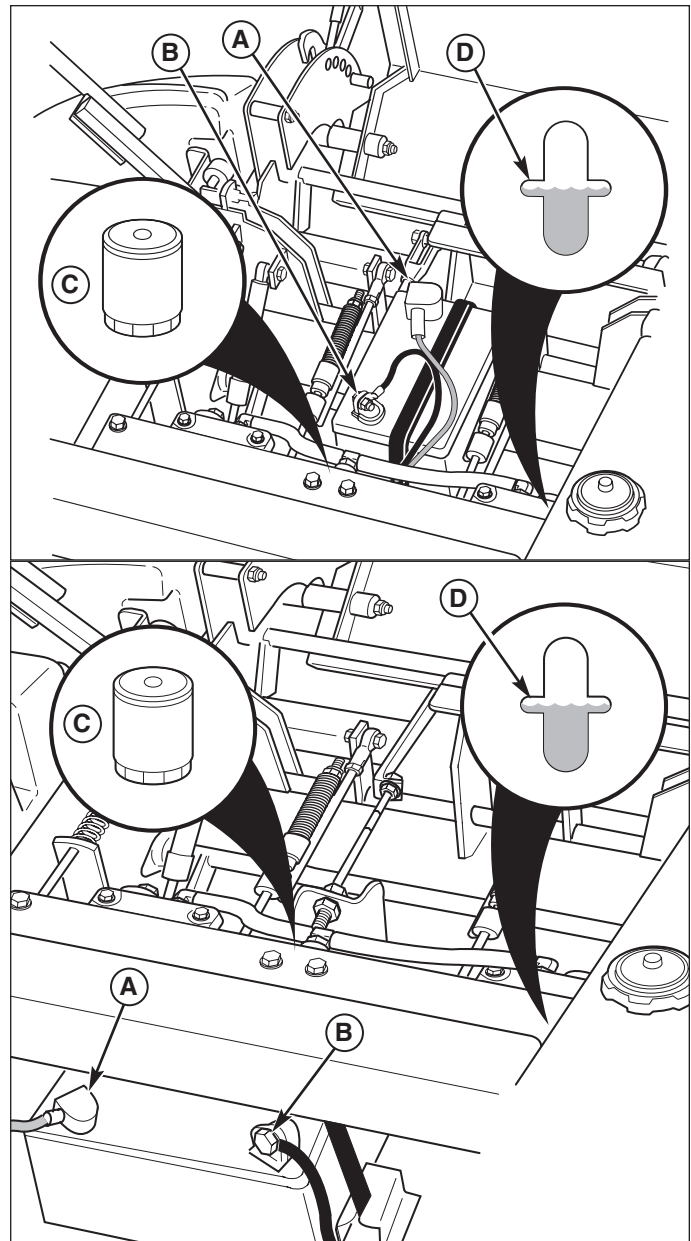

Figure 19. Battery Compartment
1. Check the oil level when the unit is cold. The inspection port is located on the inside of the right tank cover. The oil level should be within 1/2” (1.3 cm) of the horizontal level mark (D, Figure 19). If the oil is below this level, proceed to step 2.
3. Add oil up to the full mark (D, Figure 19).
1. Locate the transmission oil filter (C, Figure 19) at the rear of the battery compartment under the seat.
1. Disconnect the cables from the battery, negative cable first (B, Figure 19).
3. Reinstall the battery and reattach the battery cables, positive cable first (see A, Figure 19)